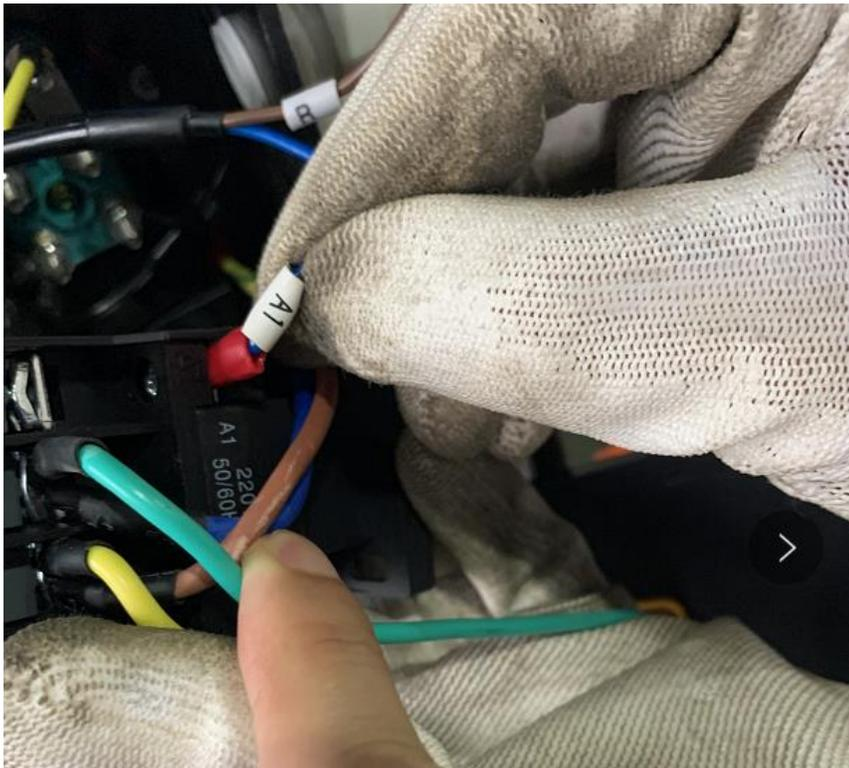

Fig. 18
3.8 Connect limiter switch wire# A1 to the A1 point of the AC contactor (Fig. 18).